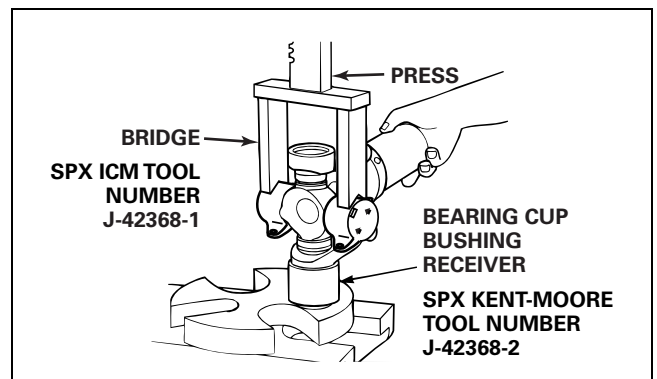
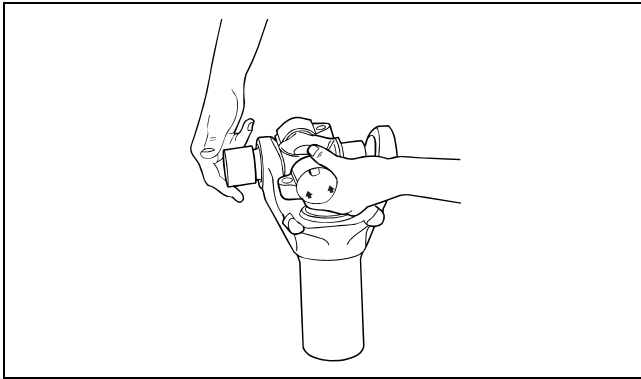

Figure 4.6
Figure 4.7
1. Use a press bridge (SPX ICM Kent-Moore tool number J-42368-1) and bearing cup bushing receiver (SPX Kent-Moore tool number J-42368-2). Figure 4.6. Refer to the Service Notes page on the front inside cover of this manual for information to obtain these tools.
2. Press DOWN until the first round bushing loosens. Figure 4.6. Remove the round bushing. Figure 4.7.